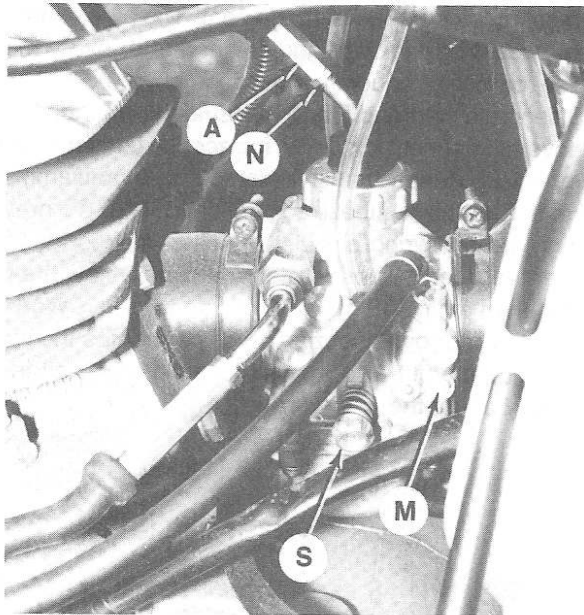
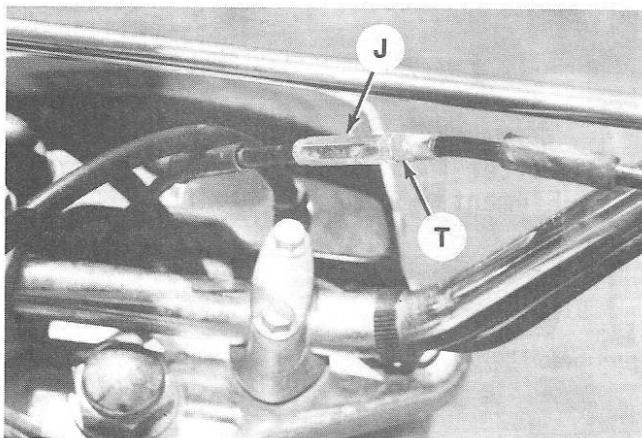

Fig. Y4-3—View of carburetor. Refer to text for carburetor adjustments.
Fig. Y4-5—Loosen locknut (T) and turn adjuster (J) to adjust throttle lever free play.
**CARBURETOR.** The carburetor is connected to the throttle lever by a cable. Cable and throttle lever free play must be adjusted for proper operation. Loosen locknut (N—Fig. Y4-3), then rotate cable adjuster (A) so cable free play is 0.0-0.5 mm (0.0-0.02 in.). Retighten locknut. Throttle lever free play should be 3-5 mm (0.12-0.20 in.). Adjust throttle lever free play by loosening locknut (T—Fig. Y4-5) then rotating adjuster (J). Retighten locknut.
Initial setting of the idle mixture screw (M—Fig. Y4-3) is 1½ turns out from a lightly seated position. Final adjustment should be performed with engine running at normal operating temperature. The idle mixture screw meters air and turning the screw counterclockwise will lean the idle mixture. Adjust the idle speed screw (S) so